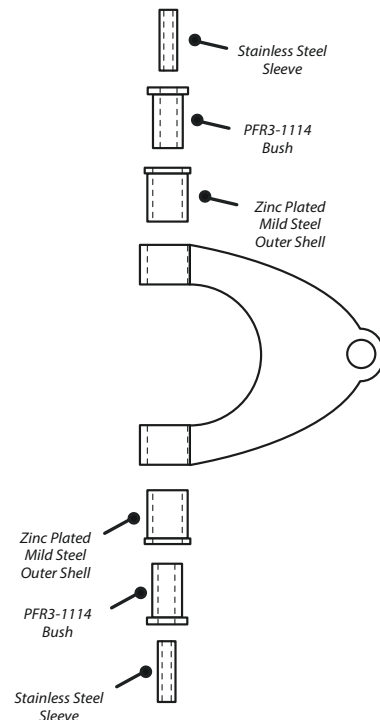

Figure 1
3. Using a workshop press or a vice, press the Outer Shells into the vacant holes of the arm. When inserting, ensure that the outer lip of the Outer Shell is facing the outside of the arm, as shown in Figure 1.